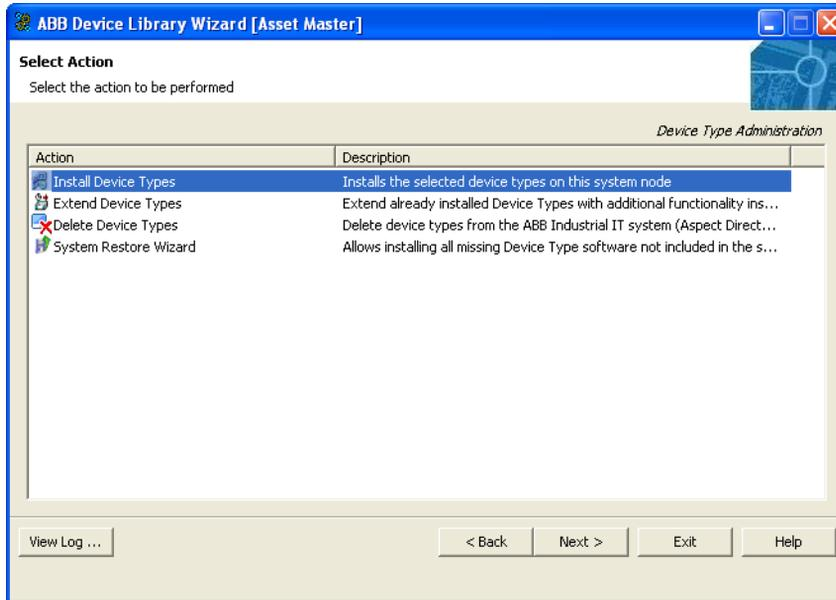

Figure 103. Install Device Types
- From the list of actions in the resulting screen, as shown in Figure 103, select **Install Device Types** and click **Next**.